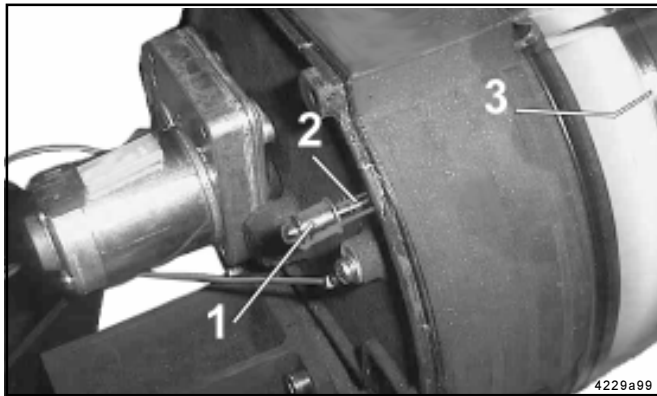

Fig. 23 -Components of the low-level control
- The follower plate 3 (fig. 23) of the reservoir moves the pin 2 with the magnet 1 ahead of the control p.c.b. and, thus, initiates the low-level signal.